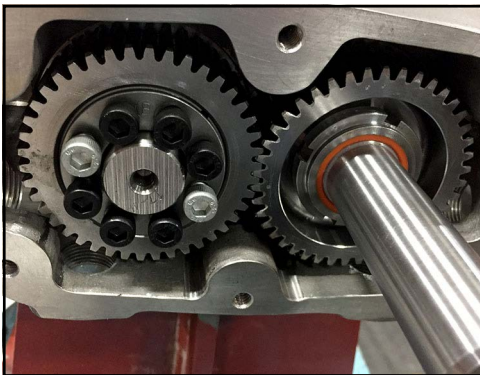

Figure 225 - Align loose gear with drive gear
5. Very lightly align the loose gear with the drive gear as shown in Figure 225.